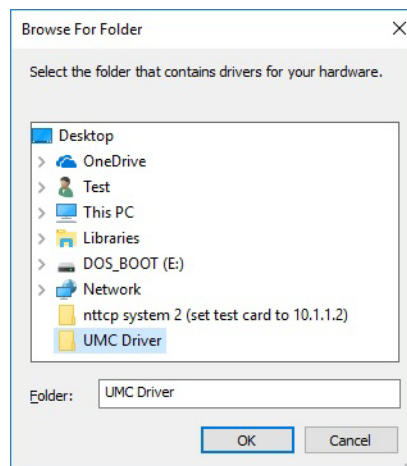

Figure 14. Browse for Folder
6. Click the Browse button to find the folder containing the drivers. The “Browse for Folder” window opens. Refer to Figure 14.